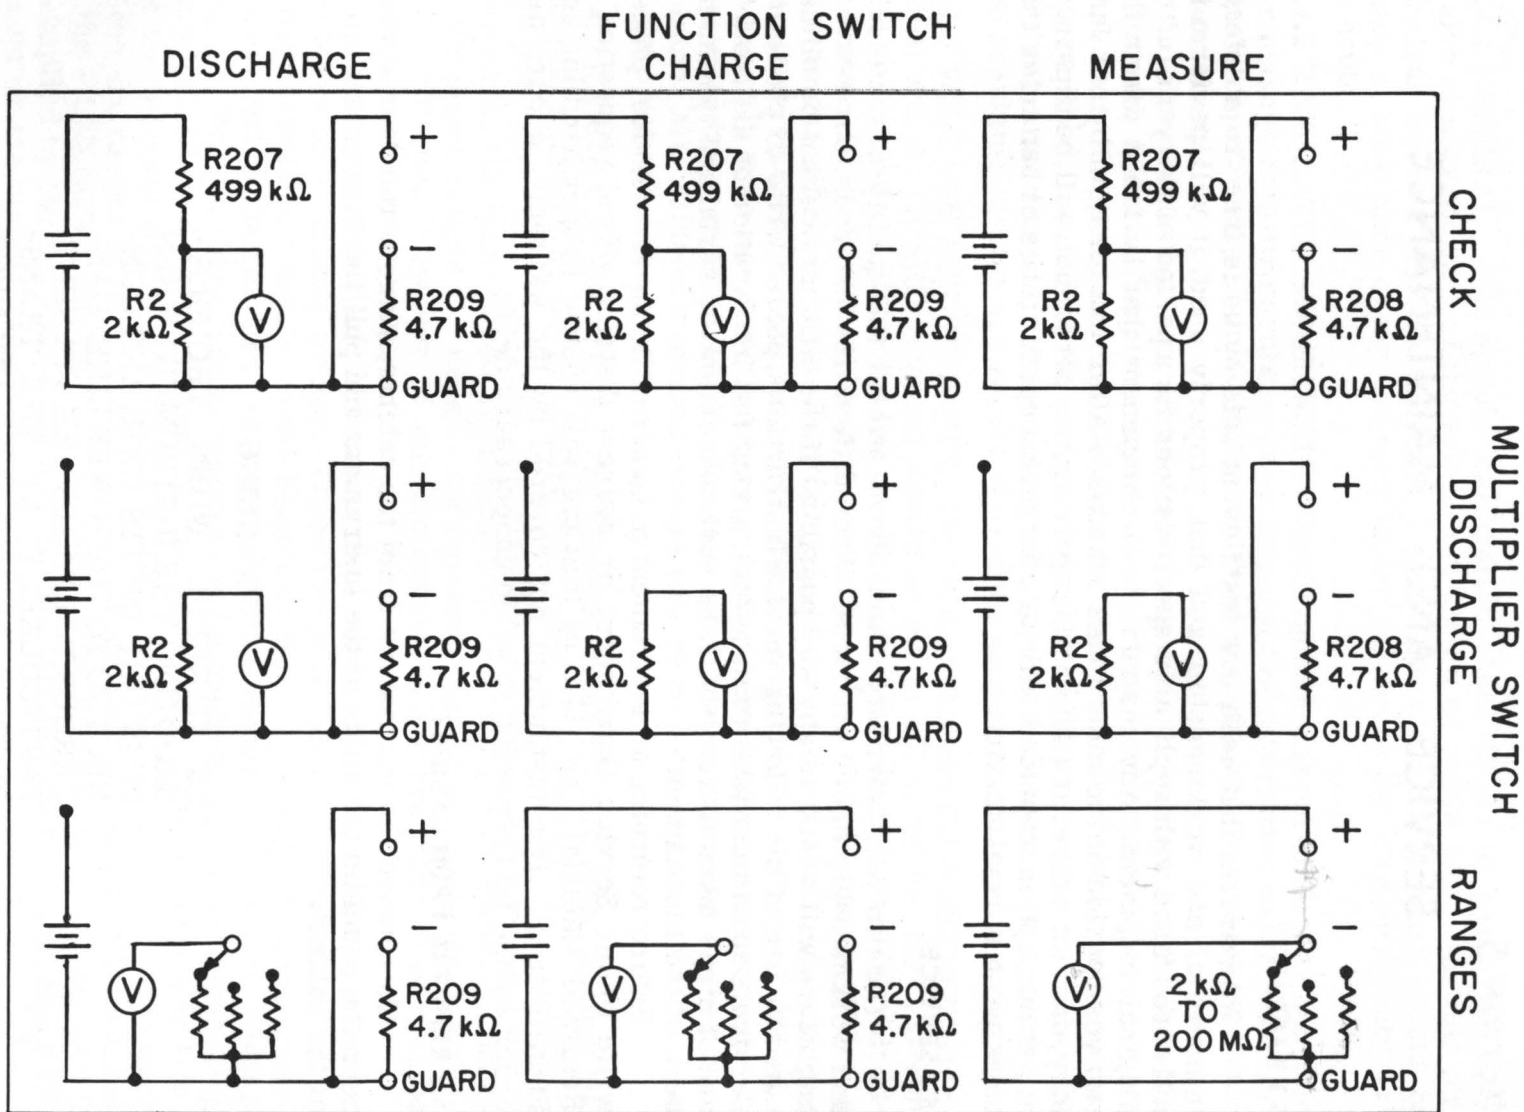

Figure 4-2. Circuit diagram of the Megohmmeter for each position of the MULTIPLIER and Function switches.
3.2.2 CHARGING TIME. The charging time for a capacitor is determined by the maximum current then may be drawn from the power supply (approximately 10 ma at 500 volts and 2 ma at 100 volts) and by the resistance in series with the capacitor. With the function switch set at CHARGE, the series resistance is 4.7 kilohms and is independent of the MULTIPLIER switch setting (see Figure 4-2). With the function switch set at MEASURE, the series resistance is equal to 2000 ohms multiplied by the red engraving of the MULTIPLIER switch indication. This becomes very large on the highest ranges. For measurement of high-valued, low-leakage capacitors, the MULTIPLIER switch should be left on the lowest range (search method) or the function switch should be left at CHARGE (sort method) until the capacitor is charged. A couple of seconds per hundred microfarads is sufficient time for units with low dielectric absorption.
The MULTIPLIER switch selects the standard resistor, R_S , used for the measurement and provides DISCHARGE and CHECK positions. (See Figure 4-2.) In the CHECK position a precision resistor is substituted for the unknown so that the gain control (CHECK adjustment) may be set. The separate function switch facilitates rapid repetitive measurements. The component is discharged by 4.7 k Ω if either the function switch or the MULTIPLIER switch is set to DISCHARGE. Voltage is applied only when the function switch is set to MEASURE and the MULTIPLIER switch is set to a multiplier position (see Figure 4-2). The neon lamp adjacent to the GUARD terminal lights when voltage appears across the UNKNOWN terminals. The lamp is dim when 100 volts is applied and quite bright when the more dangerous 500 volts is applied.